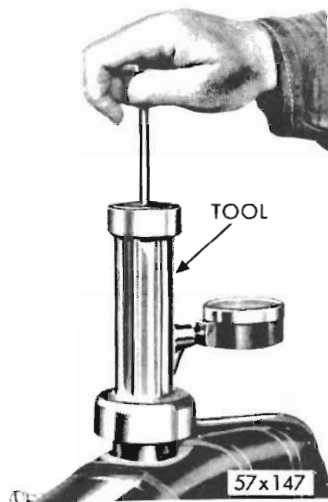

Fig. 1 - Pressure testing the cooling system
(1) For testing purposes only, fill radiator to within  $\frac{1}{2}$ " of filler neck.
(2) Wipe filler neck sealing surface clean.
(3) Attach Tool E7C15 to filler neck and apply 17 P.S.I. (see Fig. 1).
(4) If pressure gauge reading holds steady, the system is satisfactory. If pressure drops, continue test as follows:
(5) Check all points for external leaks. If no external leaks are found after the gauge dial showed a drop in pressure, continue test.
(6) Remove tester and run engine until normal operating temperature is reached.
(7) Re-attach Tool E7C15, apply 7 P.S.I. pressure and increase engine speed to half throttle.
(8) If needle on dial fluctuates, it indicates a combustion leak, generally at the head gasket.
(9) If needle on dial did not fluctuate in step (7), sharply accelerate the engine several times. If an abnormal amount of water emits from the tail pipe, it indicates a head gasket leak, cracked block or cracked head.